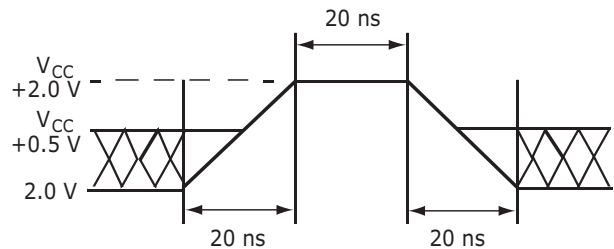

Figure 9. Maximum Positive Overshoot Waveform
1. Minimum DC voltage on input or I/O pins is -0.5 V. During voltage transitions, input at I/O pins may overshoot V_{SS} to -2.0 V for periods of up to 20 ns. See 9. Maximum DC voltage on output and I/O pins is 3.6 V. During voltage transitions output pins may overshoot to $V_{CC} + 2.0$ V for periods up to 20 ns. See Figure 9.